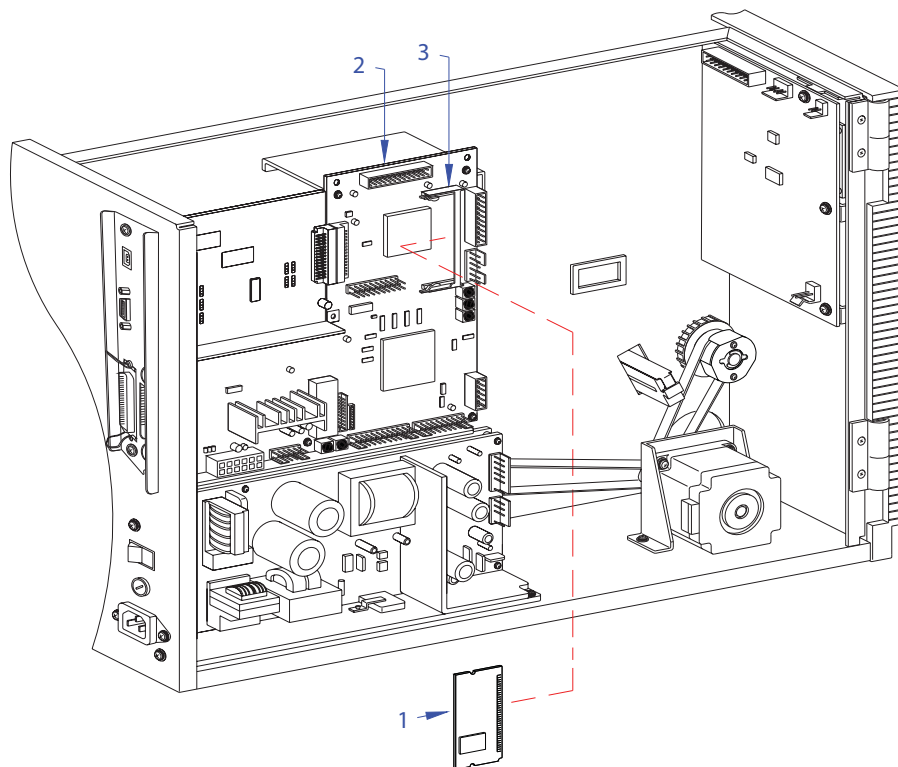

Figure 7-8, Flash Memory Board Replacement
- 3 Locate memory board (1, Figure 7-8) located on the face of main circuit board (2).
- 4 Lift upward and downward simultaneously on upper and lower clips respectively to release defective memory board (1) from its connector/bracket (3).